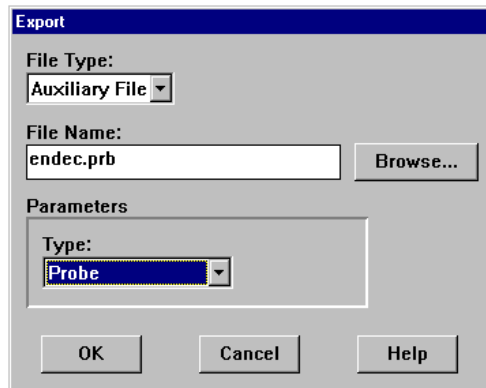

Figure 2-3. Designer File Export Dialog Box
- 3. Open the Export dialog box.** Select Export from the File menu to view the Export dialog box (Figure 2-3).